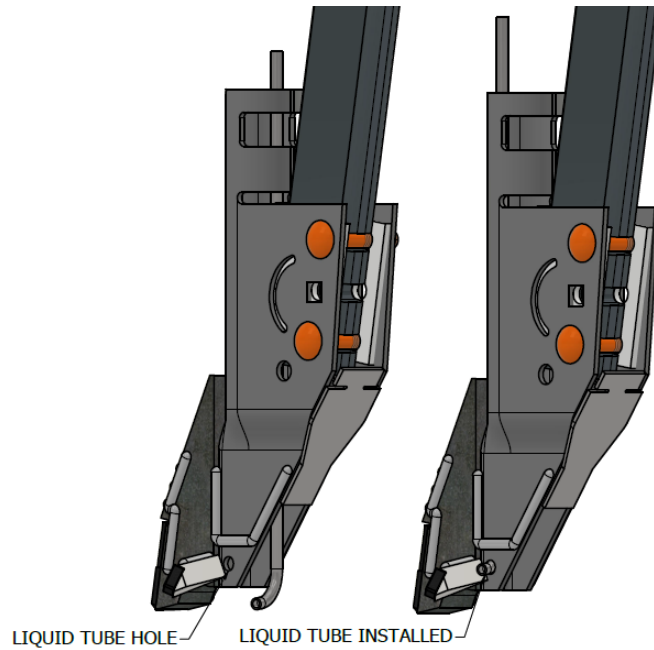

Figure 3: Install liquid tube
Mounting your openers on the correct side of the drill will reduce the chances of plugging while turning with the drill in the ground. A "left" opener will have the wing pointed to the left when viewed from the back. In Figure 3, the arrows show the direction of the wing.
- 3) Carbide protected wings for side band openers can be purchased through Atom-Jet to weld on to replace broken and worn-out wings. Remember the designation of left and right wings based on the side of the drill shown in Figure 3.